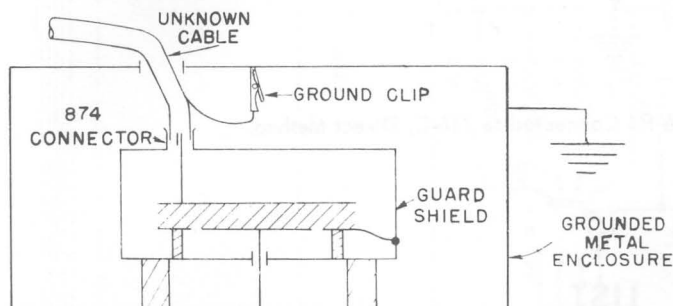

Figure 5.
**3.6 GUARDED MEASUREMENTS.** For guarded dielectric specimens, a guard shield should be provided around the specimen to eliminate from the measurement the capacitance to ground of the unguarded electrode. In most locations it will be necessary to enclose this guard shield against hum pickup. This grounded enclosure is usually provided by the oven or chamber when measurements under controlled temperature or humidity are made. Figure 5 indicates schematically the method of connection.